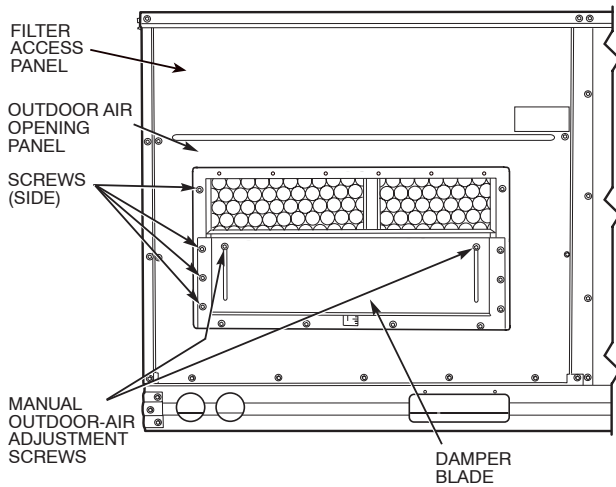
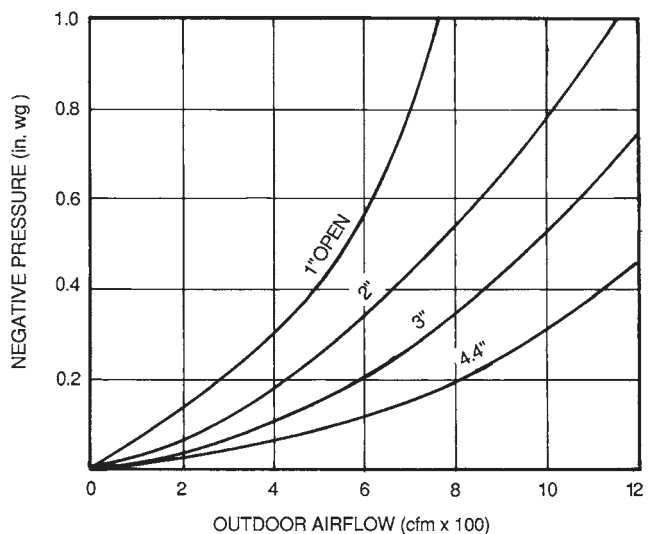

Fig. 13 – Damper Panel with Manual Outdoor-Air Damper Installed
Fig. 16 – Outdoor Air Damper Position Setting
2. Remove the filter access panel by raising the panel and swinging it outward. The panel is now disengaged from the track and can be removed. No tools are required to remove the filter access panel. Remove the outdoor-air opening panel. Save the panels and screws. (See Fig. 13.)
8. Adjust the minimum position setting of the damper blade by adjusting the manual outdoor-air adjustment screws on the front of the damper blade. (See Fig. 13.) Slide the blade vertically until it is in the appropriate position determined by Fig. 16. Tighten the screws.